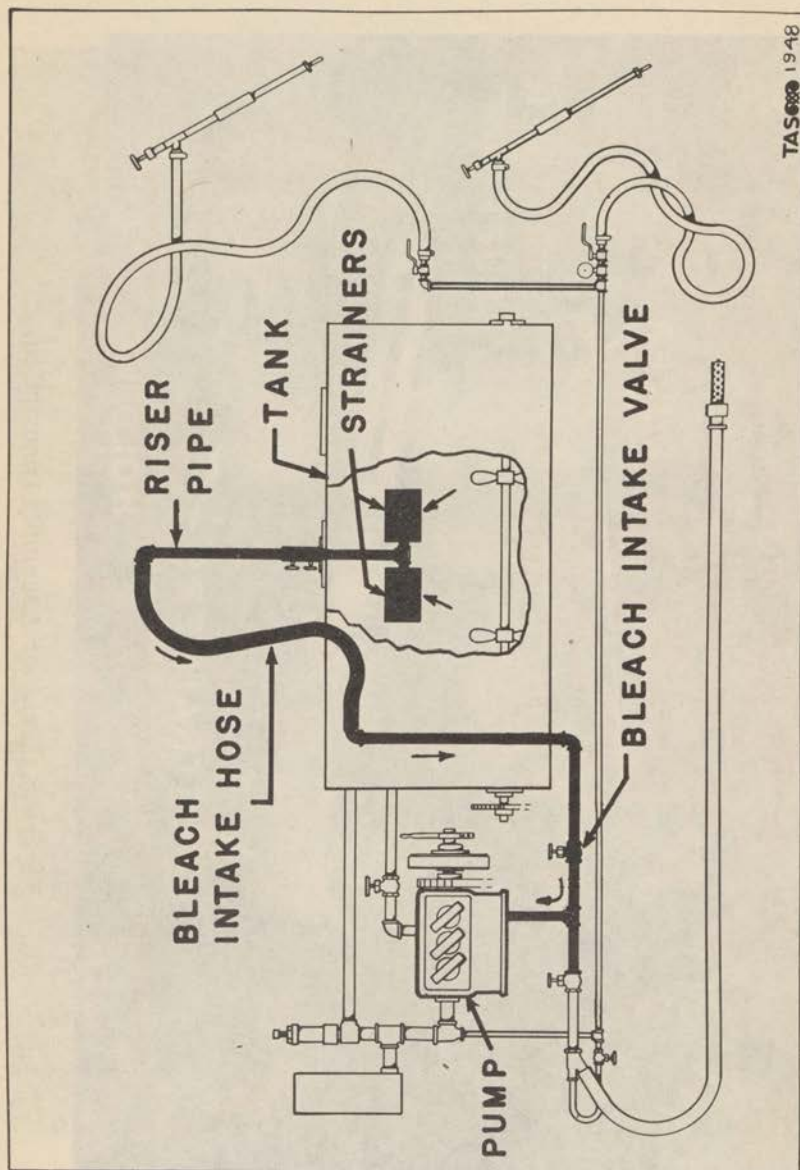

Figure 6. Bleach Intake Line.
(3) Bleach intake line. (See figure 6.) The bleach, or slurry, intake line connects the riser pipe coming from the tank with the pump. This line consists for the most part of a flexible hose which will permit the riser pipe and strainers to be raised or lowered. A bleach intake valve is located near the pump end of the line and is used for shutting off the flow of liquid from the tank to the pump.